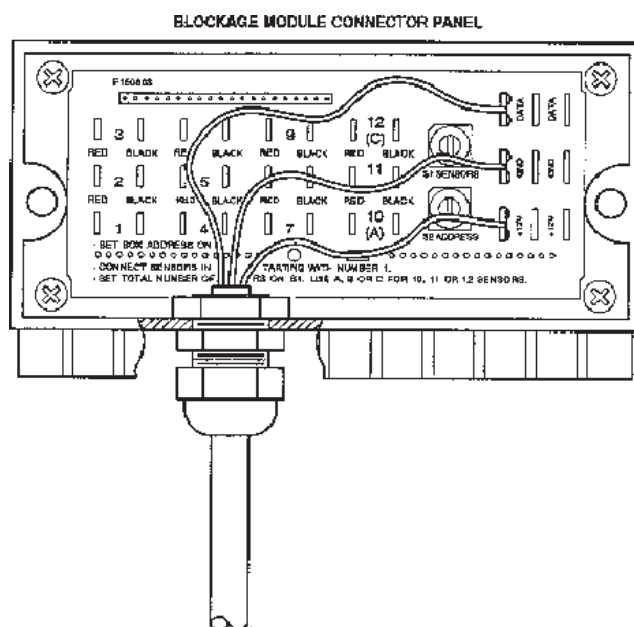

FIGURE 4: COMMUNICATION HARNESS ELECTRICAL CONNECTION
- Connect the first module on the system to the air cart wiring harness using the cable with a connector on it. **White or Red wire is +12VDC, Green or Brown is Data, and Black is Ground.** See figure 4.